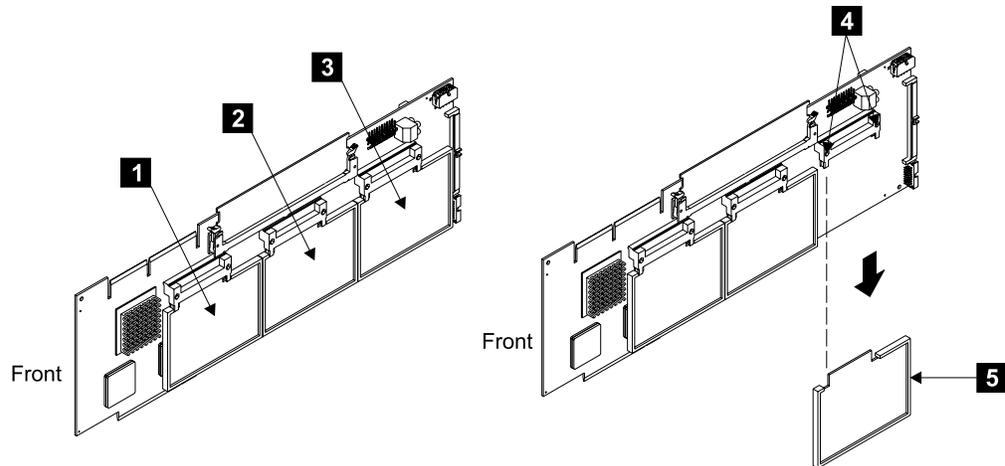

Figure 155. Cluster Bay NVS Remove and Replace (S008299m)
2. Locate the NVS cache module you are replacing or exchanging the battery on, see Figure 155 on page 148: